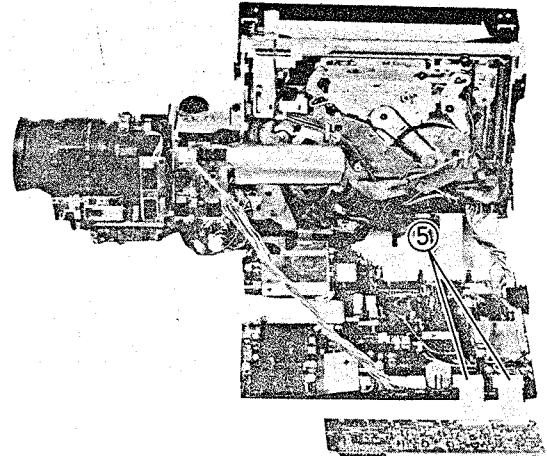

Fig. 2-13 Function Switch Circuit Board Removal
5. Disconnect two (2) flat cables (CN005, CN006). (See Fig. 2-13)